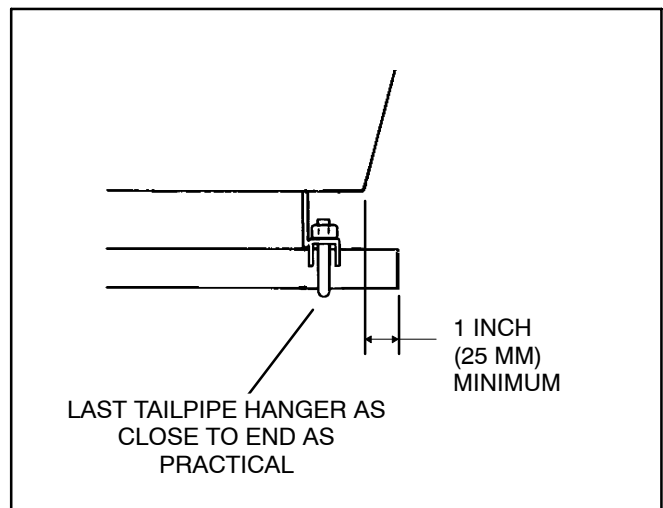

FIGURE 3-4. TERMINATING EXHAUST TAILPIPE
5. Do not terminate the tailpipe underneath the vehicle. Extend it a minimum of 1 inch (25 mm) beyond the perimeter of the vehicle (Figure 3-4). Support the end of the tailpipe such that it cannot be pushed inward and up under the skirt of the vehicle by backing up into a curb or other obstacle.